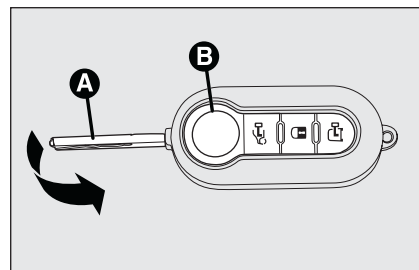
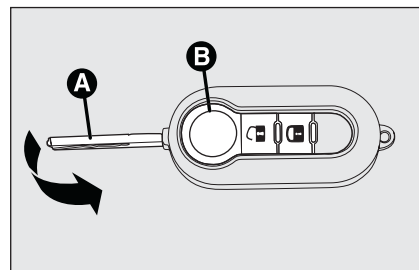
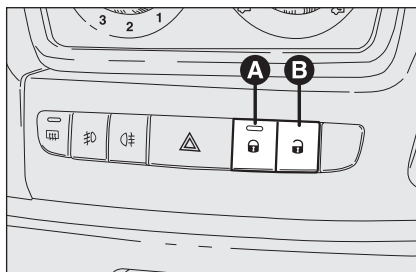

fig. 107
fig. 108
fig. 110
With the doors closed, press the button  on the remote control **fig. 107** or fit and turn clockwise the metal insert into the driver's door lock.
Door locking is only possible if all the doors are closed. Opening one or more doors by pressing the button  on the remote control **fig. 107**, will make the direction indicators and the button led **A** **fig. 110** flash quickly for about 3 seconds.
With this function active, buttons **A** and **B** **fig. 110** are disabled.
Pressing twice briefly the button  on the remote control **fig. 107** will engage the dead lock device (see paragraph "Dead lock device").
Briefly press button  **fig. 107** or  **fig. 108**, according to versions, to obtain remote door unlocking, timed ceiling light turning on, directions indicator double
Press button **A-fig. 110** to lock and press button **B** to unlock the doors. Block/release actions are carried out centrally (front and rear). When doors are locked the button led **A** is on and pressing the button **B** will obtain central unlocking of the doors and turning off of the led. When doors are unlocked, the button led is off and pressing the button will obtain central locking of the doors. Door locking is activated only if all the doors are perfectly closed.
it will not be possible to unlock the doors by pressing button **A-fig. 110**.
- ☐ locking/unlocking buttons **A-B fig. 110**;
The dead lock device is automatically activated on every door when pressing twice briefly the remote control button , **fig. 107**.
Device activation is indicated by 3 flashing of direction indicators and flashing of the button led **A-fig. 110**.